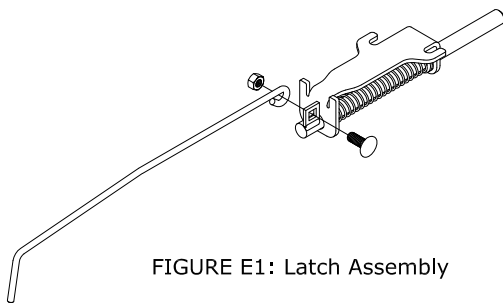
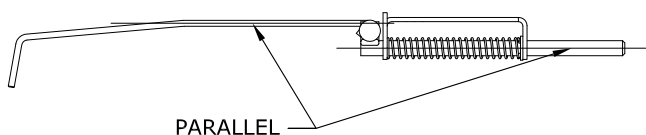

FIGURE E1: Latch Assembly
FIGURE E2: Latch Assembly
- Create latch assembly.** Attach the handle to the latch with a $\frac{3}{8}$ " carriage bolt and lock nut as shown in figure E1. With the handle parallel to the latch pin as shown in figure E2, tighten the hardware securing the handle to the latch.